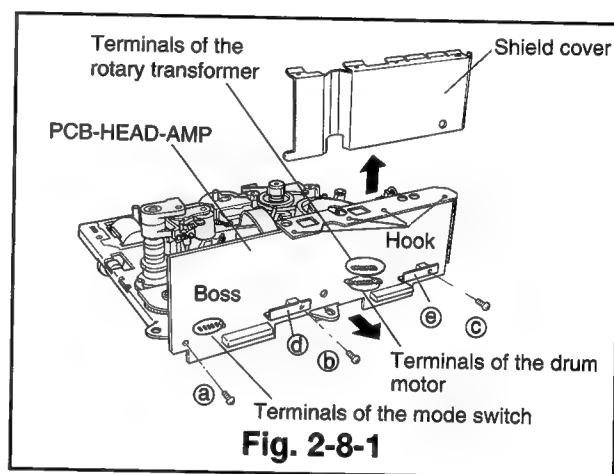
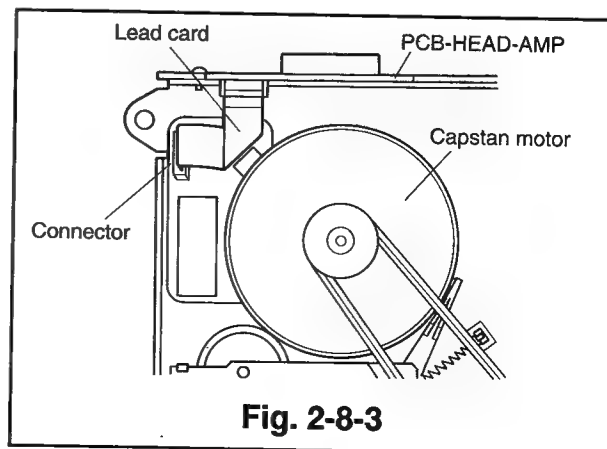

Fig. 2-8-1
Fig. 2-8-3
- ① Unfasten the hook and raise the head amp shield cover shown in Fig. 2-8-1 to remove it.
- ② Unsolder the terminals of the mode switch, the drum motor, and the rotary transformer shown in Fig. 2-8-1.
- ⑤ Reverse the deck and disconnect the lead card, connecting the PCB of the capstan motor and the PCB-HEAD-AMP. (Refer to Fig. 2-8-3.)
- ⑥ Remove the three screws (a, b and c) and slowly pull the PCB-HEAD-AMP in the direction shown by the arrows. (Refer to Fig. 2-8-1.)
- ① Insert the terminals of the mode switch, the drum motor, and the rotary transformer, and the boss, adjacent to the mode switch, in the matching holes on the PCB-HEAD-AMP and secure the PCB-HEAD AMP with the three screws (a, b and c) in the order, b → c → a. (Refer to Fig. 2-8-1)
- ② Solder the pins mentioned in Item ①.
- ③ Reverse the deck and reconnect the lead card connecting the PCB of the capstan motor and the PCB-HEAD AMP (Refer to Fig. 2-8-3.) Take care not to fit lead card upside down.